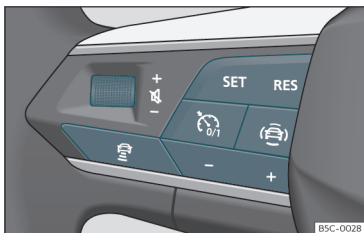

Fig. 161 On the multifunction steering wheel: buttons to operate the ACC
Your vehicle has ACC if it has a configuration menu in the infotainment system»» page 88 and if it has the ACC function buttons on the multifunction steering wheel»» **Fig. 161**.
- To start regulation, press the button **SET** >>> **Fig. 161**.
To program the speed, press the + or - >>> **Fig. 161** buttons to the desired speed. The speed is adjusted at intervals of 10 km/h (5 mph).
- Press the button  and then the button + or - >>> **Fig. 161**.